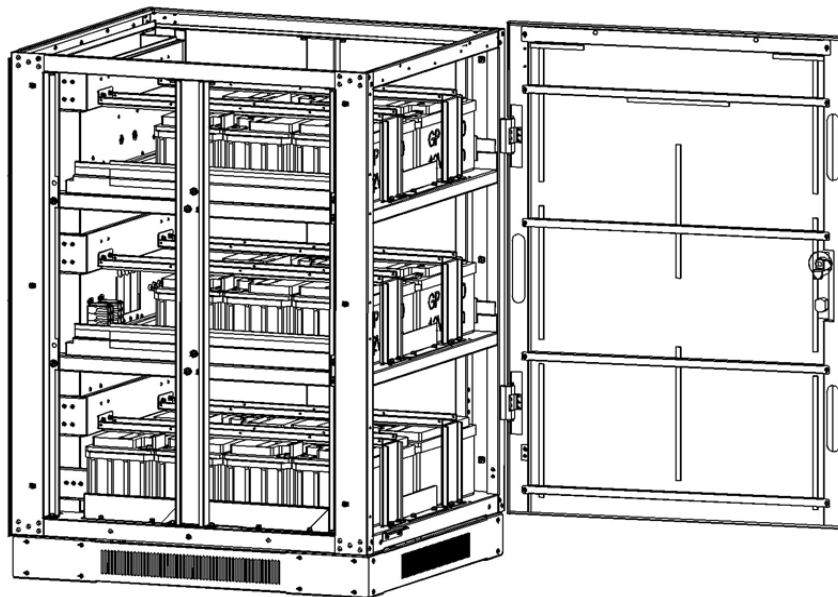
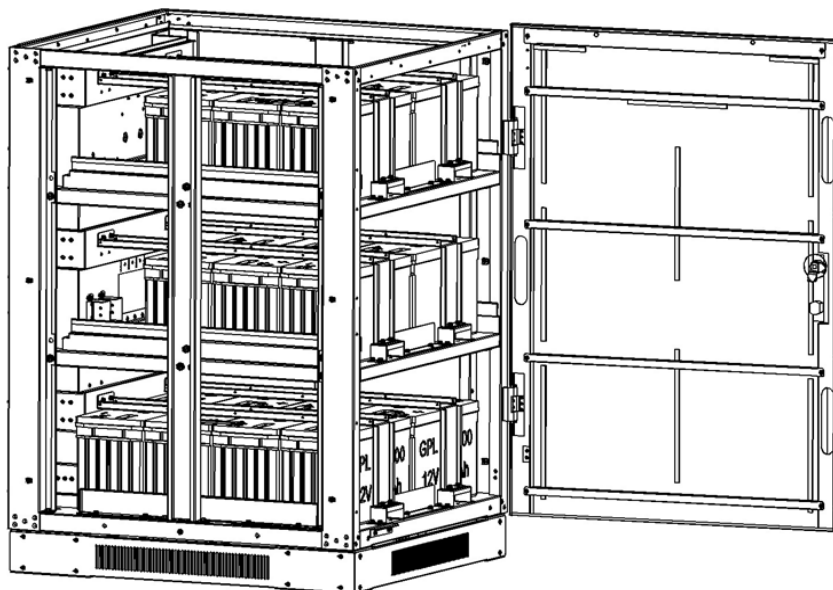

Figure 5-15: Model BP240V65-NIB
Figure 5-16: Model BP240V100-NIB
7. Reinstall all battery retention brackets and screws (Figure 5-15: Model BP240V65-NIB or Figure 5-16: Model BP240V100-NIB).